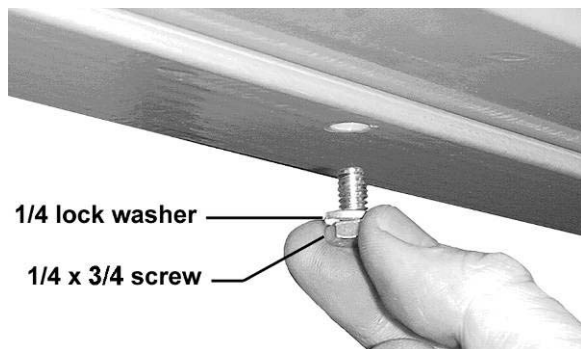

Figure 13
2. Fasten the *guide tube* to the rail from beneath, with eight $1/4$ -20 x $3/4$ *hex cap screws* and eight $1/4$ *lock washers* (Figure 13). Finger-tighten only.